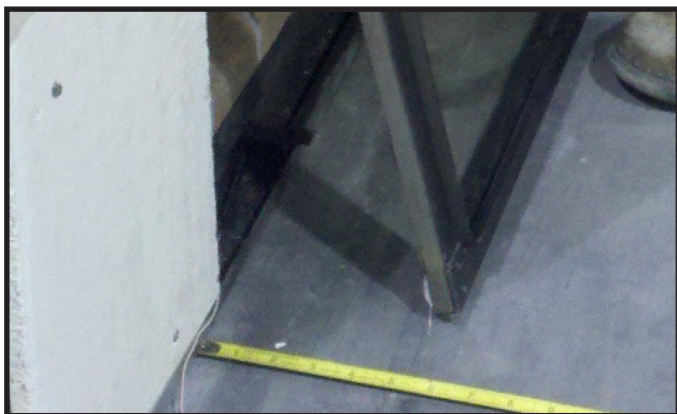

Figure 11.4 Positioning Glass
2. Position the fixed glass assembly so that it is about eight inches from the face of the appliance. See Figure 11.4.